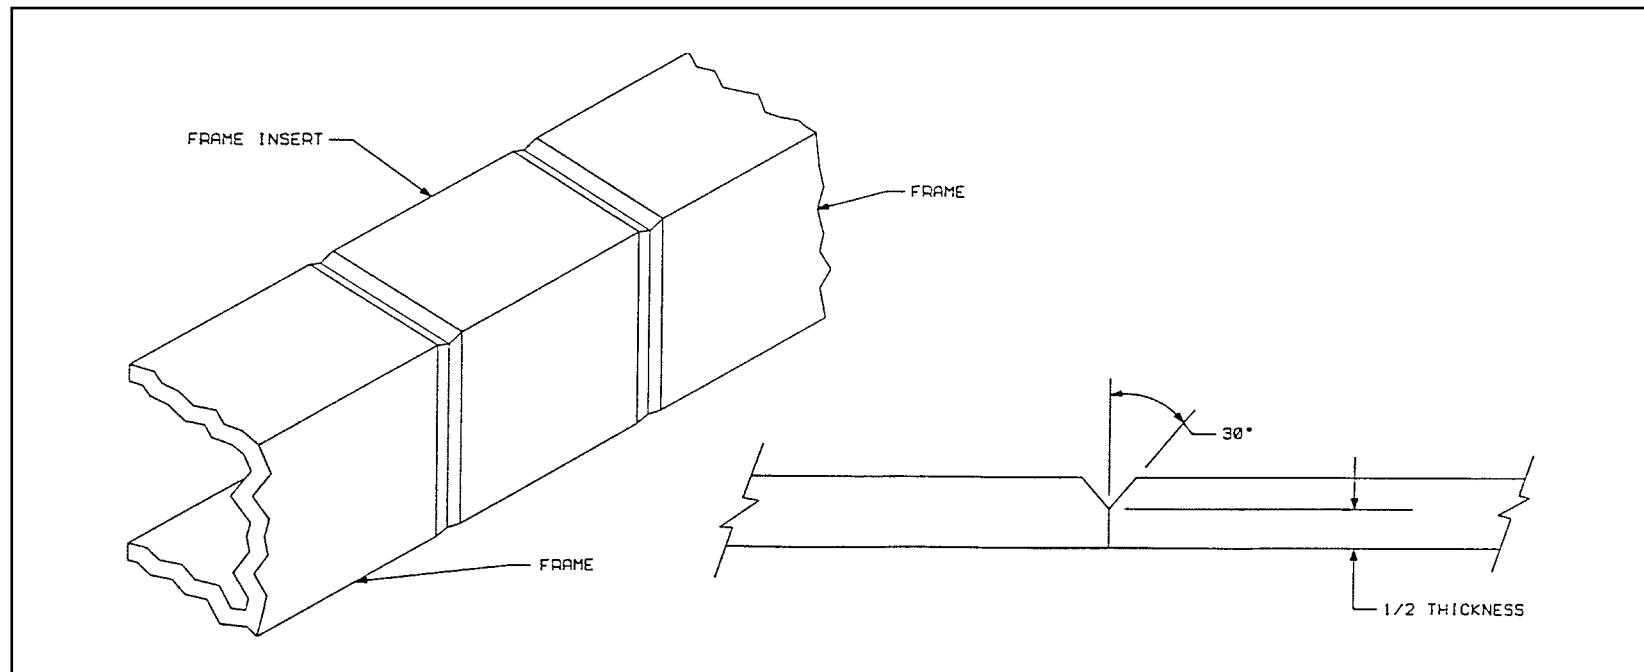

Figure 3
3. Chamfer the outside edge of both the frame and the insert at a 30-degree angle, leaving 1/2 of the thickness (Figure 3).